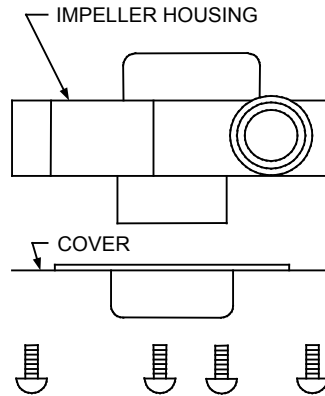

Figure 6.9
18. The pump impeller may be checked by removing the 4 screws from the cover encasing the impeller in the housing, (See Fig. 6.9).